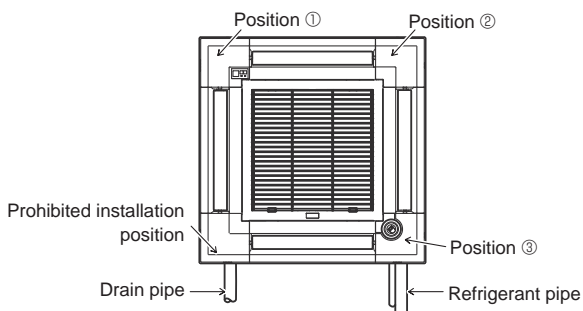

Fig. 9-11
The signal receiver corner panel can not be installed on the drain pipe side for the main unit. (Refer to Fig. 9-11)
- The i-see Sensor corner panel should be fixed onto the grille (1) with screw (3).
- * If the position of the i-see Sensor was changed from default position (position 1) to the other position, change the function settings. (Refer to page 12 and Fig. 9-11)
- The i-see Sensor corner panel can not be installed on the drain pipe side for the main unit. (Refer to Fig. 9-11)